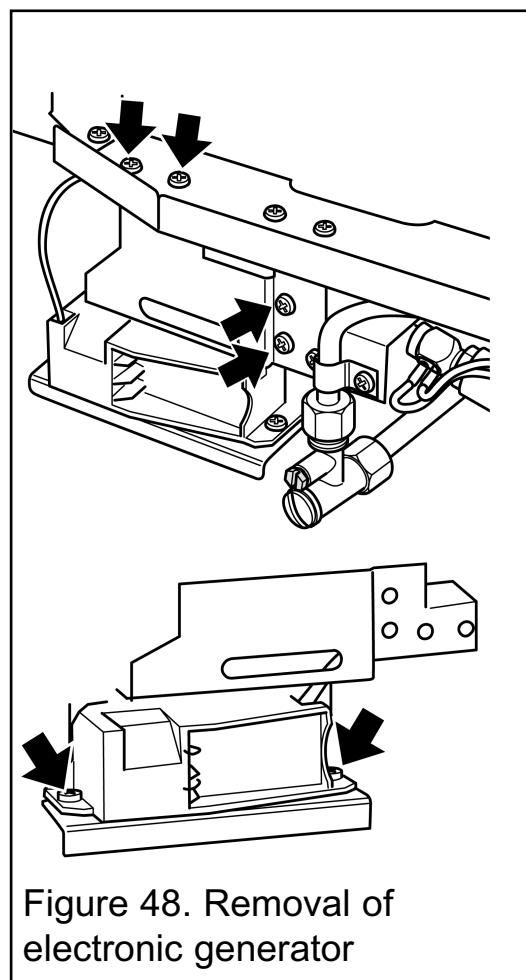

Figure 48. Removal of electronic generator
5. Unscrew the four support bracket screws (See figure 48). The generator and its support bracket can now be moved forward. Be careful not to apply tension to the microswitch leads.
6. Remove the two fixing screws that attach the generator unit to the support bracket. The igniter generator can now be removed (See figure 48)